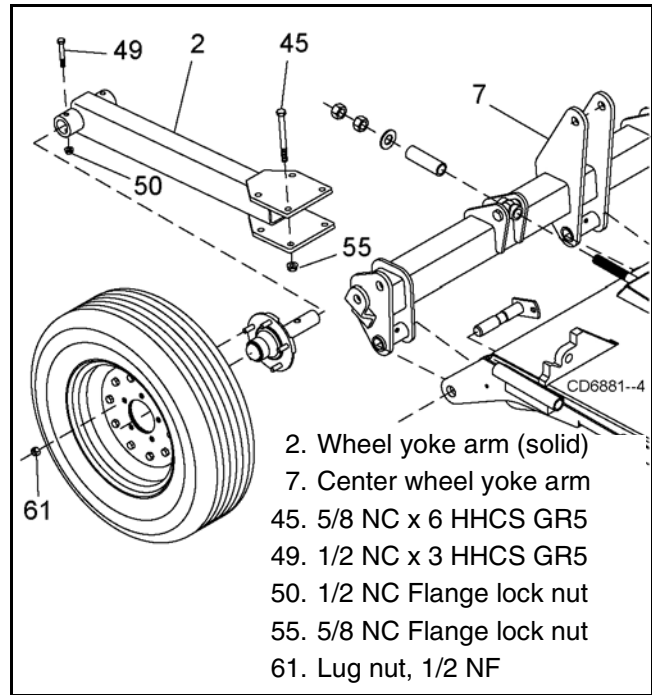

Figure 25. Wheel Yoke Arm & Tire Installation
1. Attach wheel yoke arms (2) to rear of wheel yoke tube (7) as shown in Figure 25 using four bolts (45) and nuts (55).
2. Insert wheel hubs into each wheel yoke arm (2) and align holes.
3. Secure into position using cap screw (49) and flanged lock nut (50). Repeat for additional hubs.
4. Attach wheel to hub using five lug nuts (61). Install the chamfered side of the lug nut toward the inside for steel rim for pneumatic tires and rims (shown).